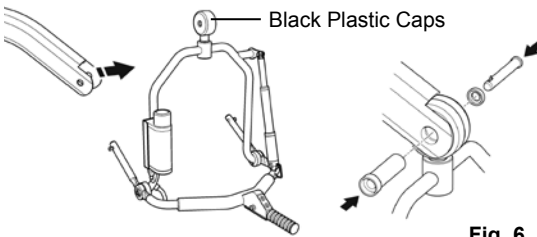

Fig. 6
To connect, raise the 4-point Adaptive Power Cradle up towards the boom slot. Insert the pin sleeve through lift boom, the black plastic end cap* and the cradle king pin. Once the pin sleeve has been installed and is supporting the weight of the Adaptive Power Cradle, re-insert the quick release pin fully into the sleeve until it locks into position (See fig. 6).
- Before using your 4-point Adaptive Power Cradle ensure the quick release pin is **FULLY ENGAGED** as shown in figure 6 and 7 on page 5.